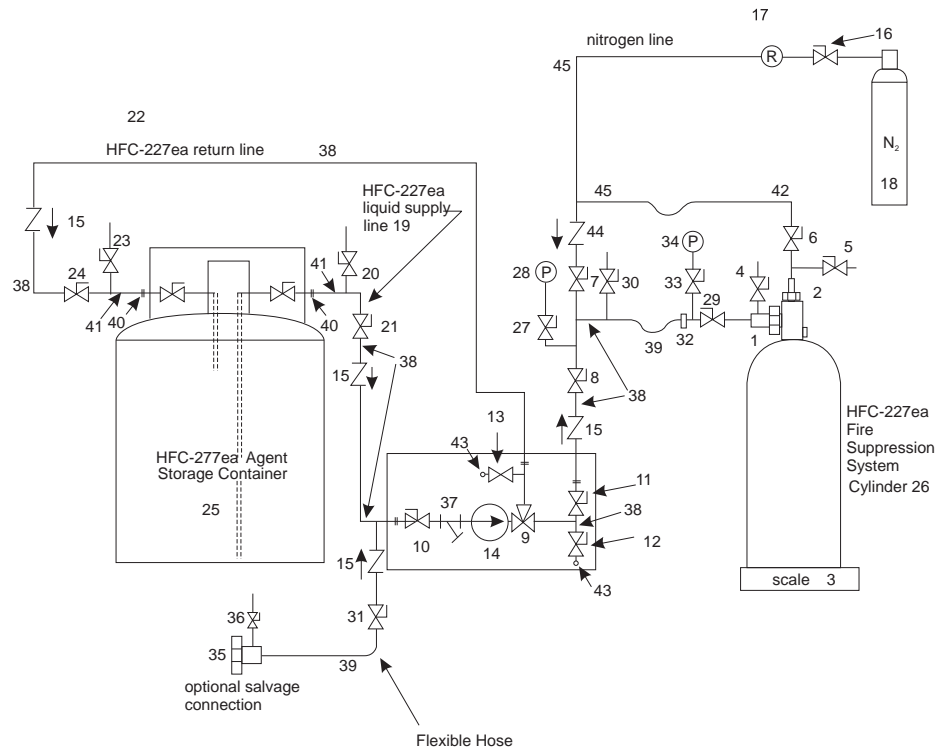

Figure 6-8. Typical HFC-227ea Charging System for Kidde ECS Cylinders
HFC-227ea charging equipment consists of an HFC-227ea storage container, piping adapter, control valves, strainer, pressure gauge, flexible hoses, seating adapter, recharge adapter, pump, scale and interconnecting plumbing. Recharge equipment must be suitable for the purpose intended and must be compatible with HFC-227ea. A typical HFC-227ea charging system schematic is shown in Figure 6-8.
Table 6-6. Item List for Figure 6-8
6. Set the 3-way valve (Item 9 in Figure 6-8) to allow flow from the HFC-227ea supply to the cylinder.